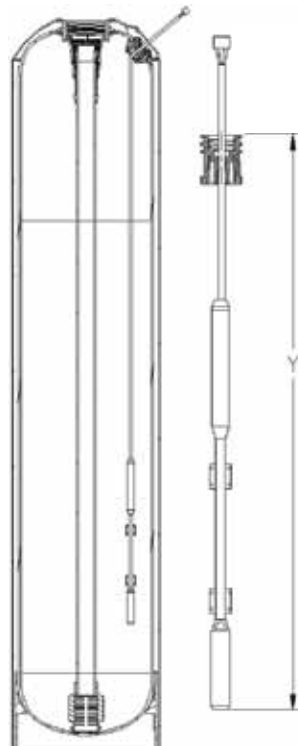

Figure 2. HE Softener tank.
3. Install the outlet manifold into the tank (Figure 2).